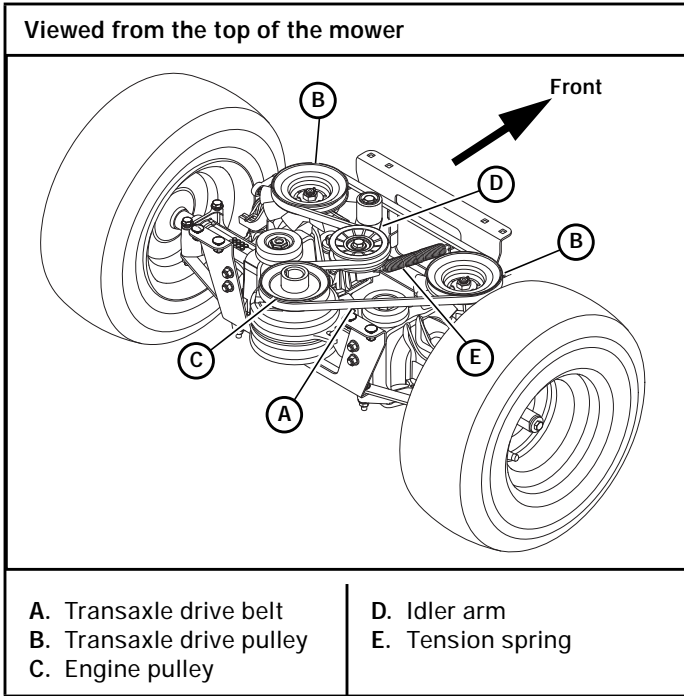

Figure 4-9
8. Locate the tension idler spring. Securely clamp locking pliers onto the spring at the end located next to the idler arm. Figure 4-9
9. Release the transaxle drive belt tension, using the locking pliers, to remove the tension spring from the idler arm. Swing the idler arm out of the way. Figure 4-9
10. Remove the transaxle drive belt from the transaxle drive pulleys and the engine pulley. Figure 4-9
11. Replace the transaxle drive belt and route it around the engine pulley and the transaxle drive pulleys. Figure 4-9
12. Make sure the transaxle drive belt is routed correctly around the tension idler before attaching the tension spring. Using the locking pliers, re-attach the tension spring to the idler arm to re-tension the transaxle drive belt. Remove the locking pliers from the tension spring. Figure 4-9